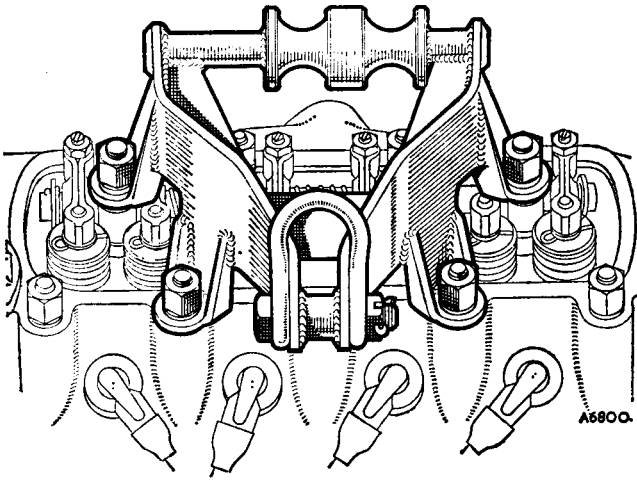

Fig. A.11
21. Remove the rocker cover nuts and fit the engine lifting bracket (Fig. A.11).
6. Remove the rocker cover nuts and fit the engine lifting bracket (Fig. A.11).
2. Support the engine with the attachment shown in Fig. A.11; use the central 'straight lift' position and take the weight off the mounting.